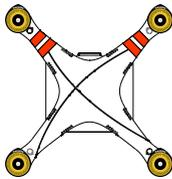

Fig.1
1. (Fig.1) Remove the four warning cards from the motors after you read them.